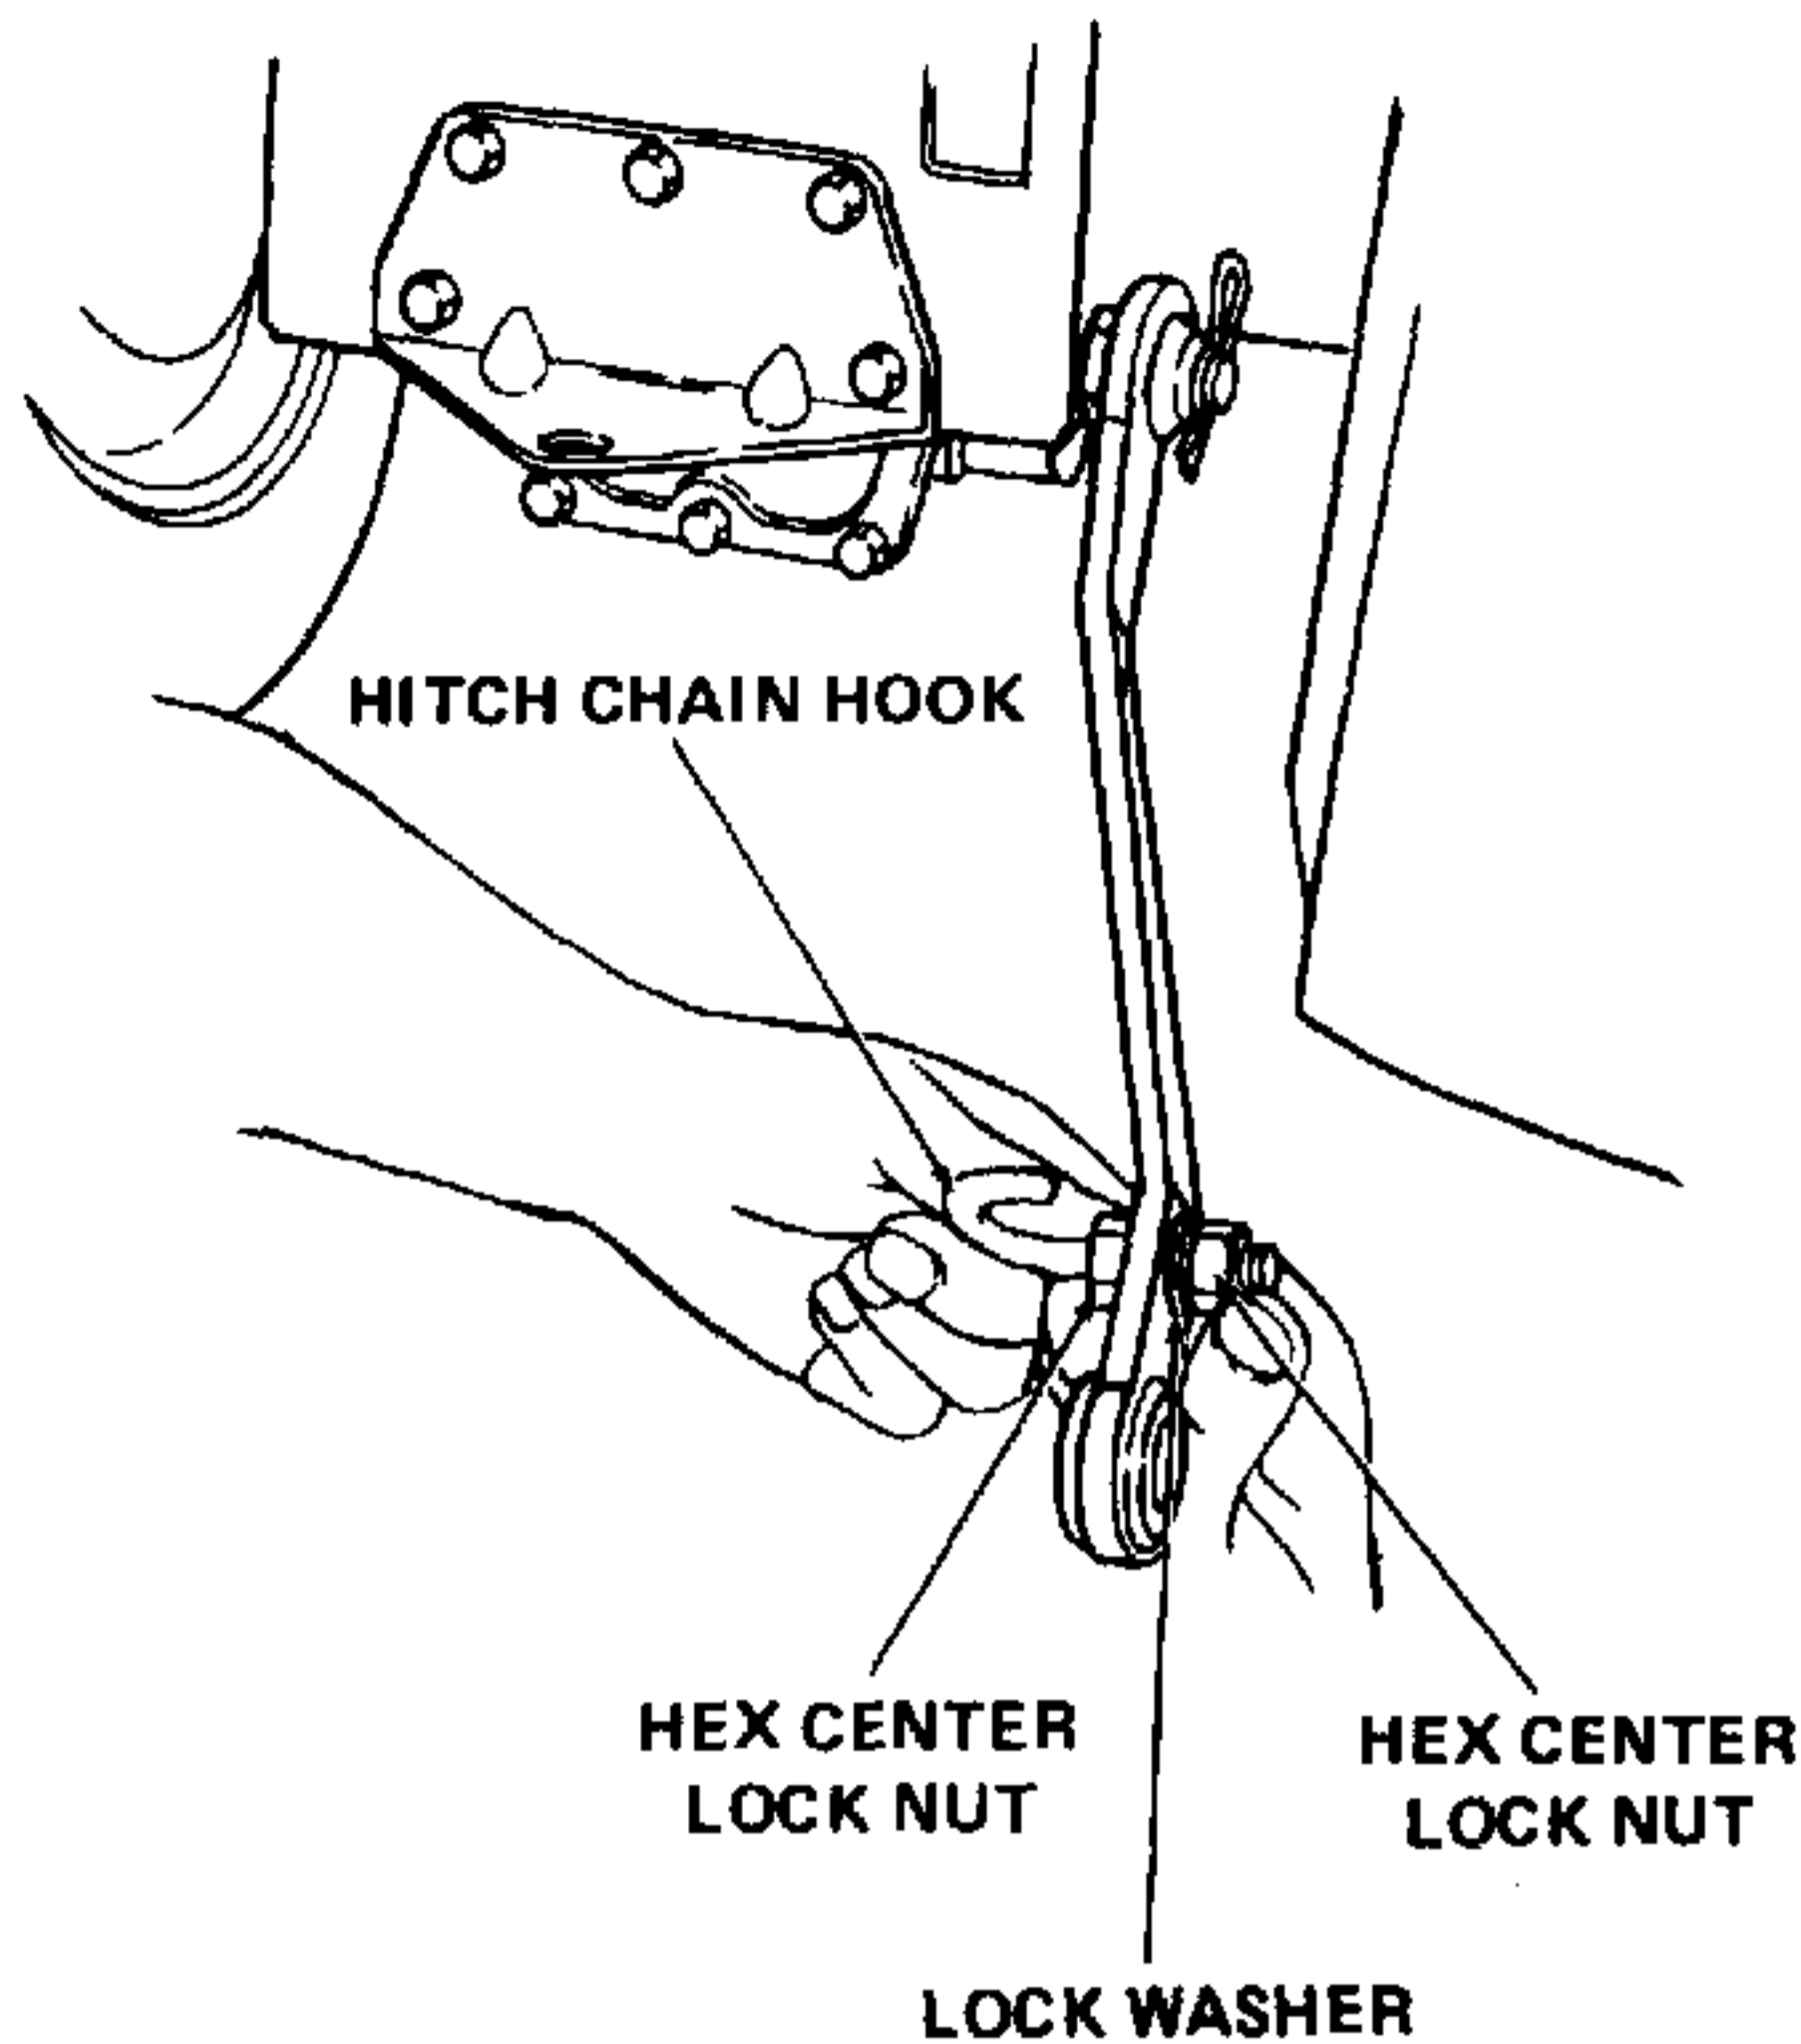

Figure 7-57. Installing Hitch Chain Hook.
8. Install hitch chain hook (16, Figure 7-40). Refer to Figure 7-57.